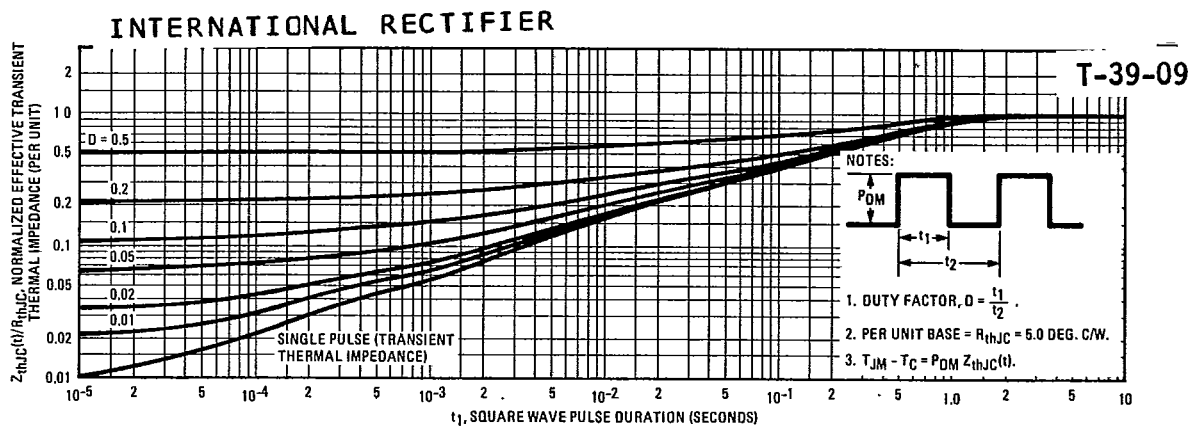

Fig. 5 — Maximum Effective Transient Thermal Impedance, Junction-to-Case Vs. Pulse Duration
③ Repetitive Rating: Pulse width limited by max. junction temperature. See Transient Thermal Impedance Curve (Fig. 5).